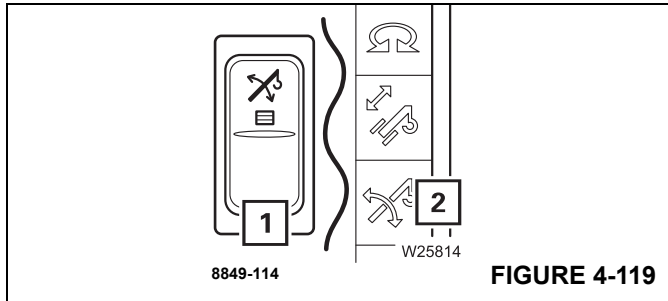

FIGURE 4-119
Press the button (1), (Figure 4-119) once.
Symbol (2), (Figure 4-119) will be red if the lifting/lowering mechanism is switched OFF.